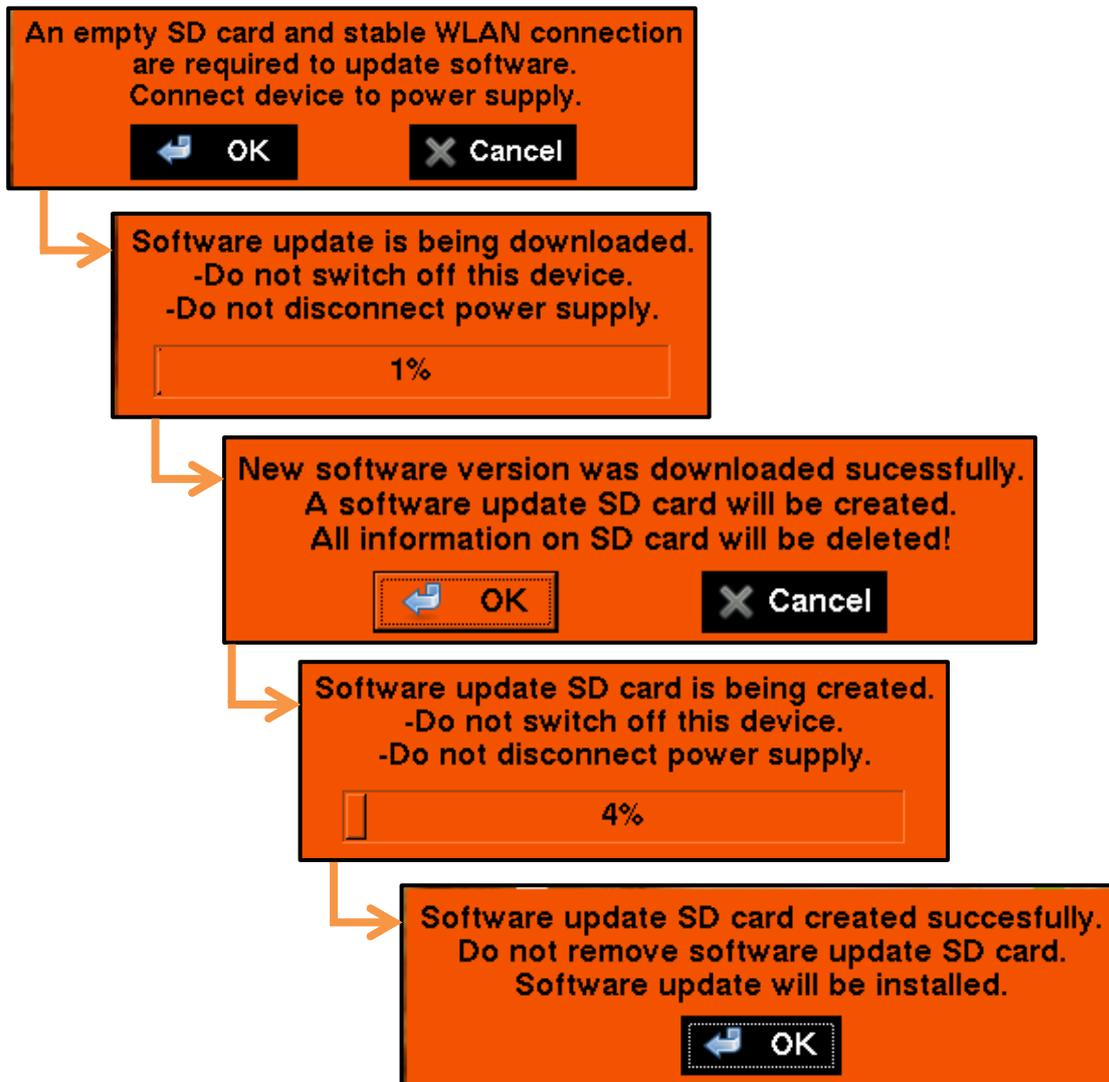

Figure 17: Software Update via WLAN
- touch the symbol (3) to download the current software and
- confirm with the green checkmark (4). You will be guided through the download with the help of status messages on the screen (see figure 17 on the next page).